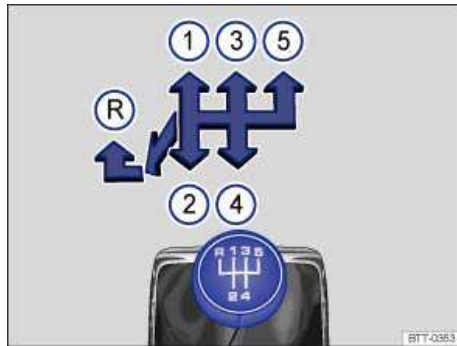
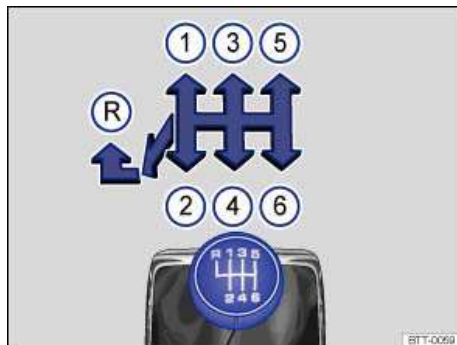

Fig. 157 Gearshift pattern of a 5-speed manual transmission.
Fig. 158 Gearshift pattern of a 6-speed manual transmission.
The positions of the individual gears are shown on the gearshift lever ⇒ fig. 157 or ⇒ fig. 158.
- Move the shift lever to the left and then push forward into the reverse gear position ⇒ fig. 157 \(R\) or ⇒ fig. 158 \(R\).